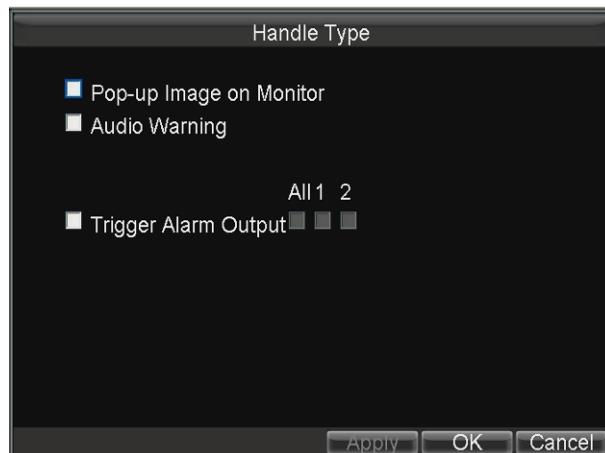

Figure 7.5 Handle Type Interface
5. Check the checkbox for **Handle Type** and click the **Set** button for **Handle Type** to configure alarm response actions, including Pop-up Image on Monitor, Audio Warning and Trigger Alarm Output, as shown in Figure 7.5.